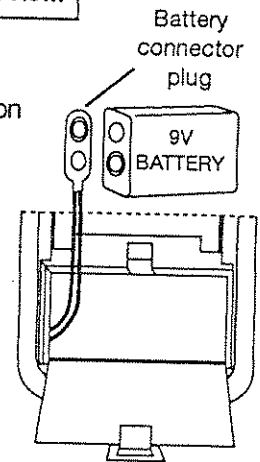

Figure 2. Back view, showing open battery compartment.
3. Install the battery by aligning the connectors on the battery with the receptors on the battery connector plug. Press firmly until the battery is in place. See Figure 2.